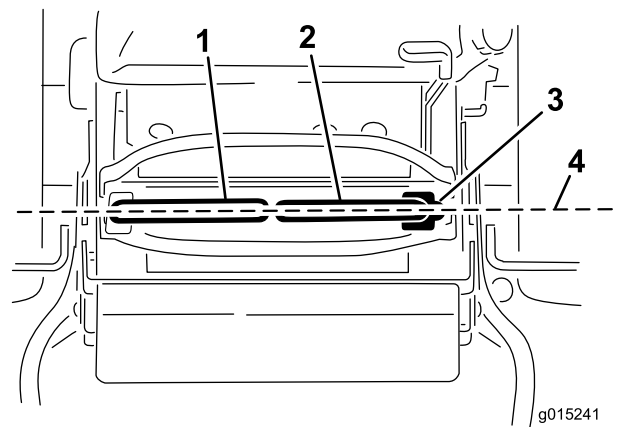

Figure 74
Important: Ensure the tracking of the mower is correct after adjusting the motion control levers. Adjusting the tracking and aligning the motion control levers front to back is the same procedure (Figure 74).
1. After the horizontal alignment is finished, check the front to back alignment (Figure 74).